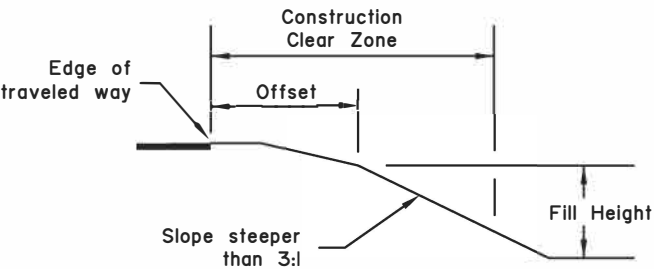

FIGURE 5
1. Use this table for fill slopes steeper than 3:1 or water hazards that start within the Construction Clear Zone (CCZ). See Figures 5, 6, and 7.